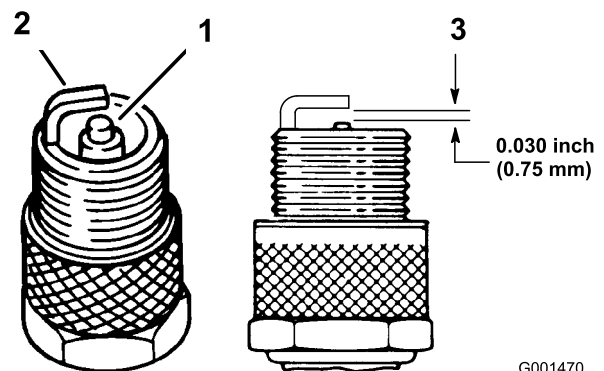

Figure 27
1. Look at the center of the spark plugs (Figure 27). If you see light brown or gray on the insulator, the engine is operating properly. A black coating on the insulator usually means that the air cleaner is dirty.
2. Check the gap between the center and side electrodes (Figure 27). Bend the side electrode (Figure 27) if the gap is not correct.
3. Connect the wires to the spark plugs (Figure 27).